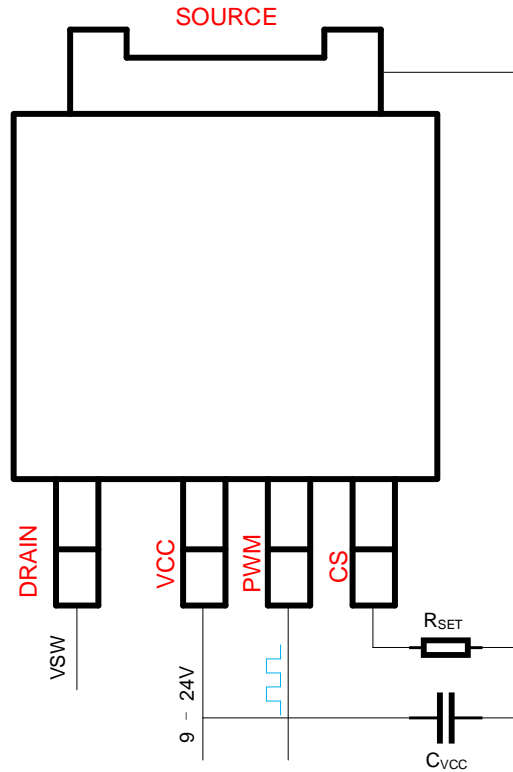

Figure 18. IC connection diagram
The typical connection diagram for this GaN Power IC is shown in Figure 18. The IC pins include drain of the GaN power FET (D), source of the GaN power FET (S), IC supply ( $V_{CC}$ ), PWM input (PWM), and current sensing output (CS). The external components around the IC include  $V_{CC}$  filter capacitor ( $C_{VCC}$ ) connected between  $V_{CC}$  pin and S pin, a current sense amplitude set resistor ( $R_{SET}$ ) connected between CS pin and S.